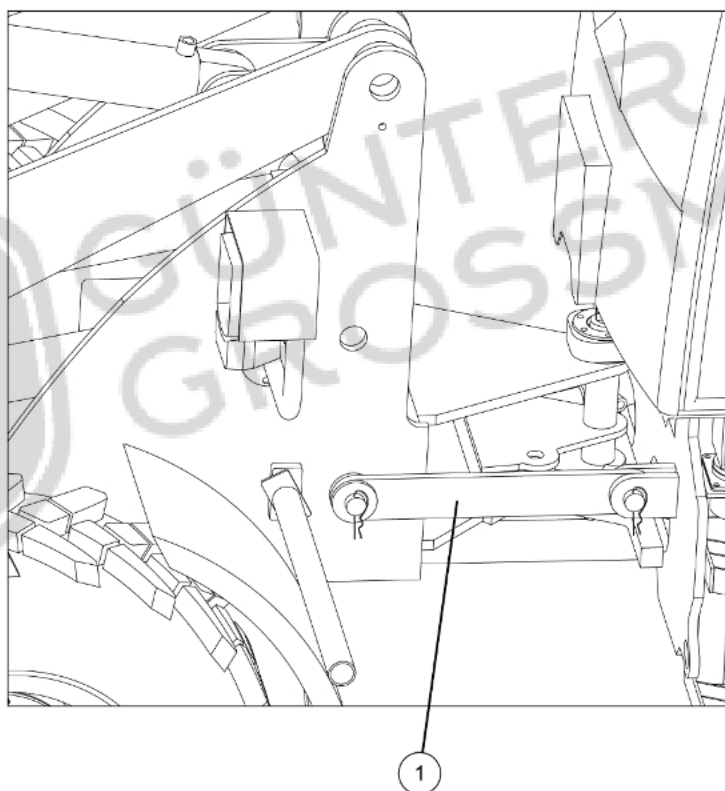
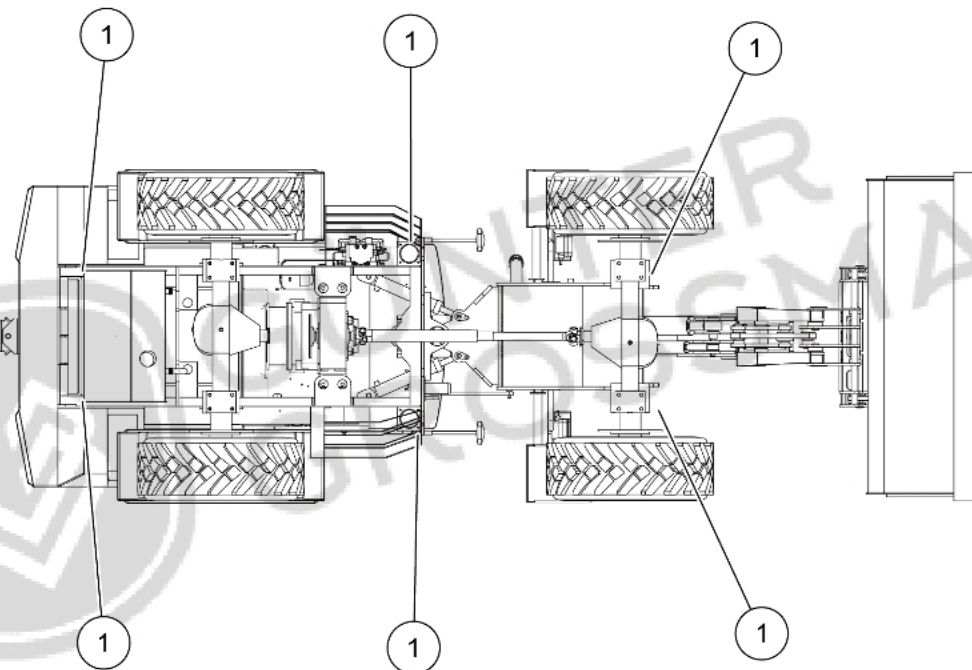

Figure 3-9 Locking frame
Figure3-10 Layout of lifting points
- 7) After loading, use frame lock plate (1) to lock front and rear frames, as shown in Figure 3-9. Fix the tire of loader with stop, and tie loader rope tightly through the specified lifting lugs. The position of lifting lugs is shown in Figure 3-10.
When lifting the loader, the specified lifting points on the front and rear frames should be used for lifting. The lifting points of the loader are shown in Figure 3-10.